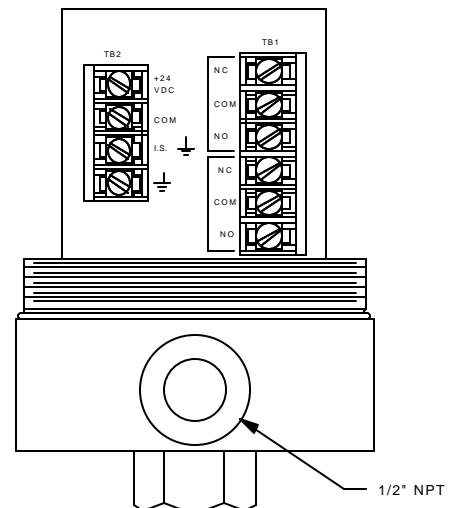

FIGURE 2-5 Hook-up Details For Relay Outputs And DC Line Power
- Figure 2-5** Hook-up Details For Relay Outputs and DC Power
DC-Powered Series 200's Connect 24 VDC to the appropriate terminals on TB2, matching polarity as indicated (Figure 2-5)